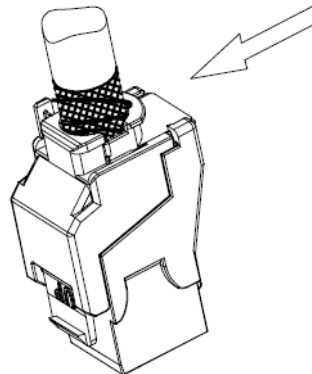

Fig. 13
- 3) The drain wire should be wrapped around the cable to ensure 360deg shield. Push the shielding lug close to the jack (Fig 13)